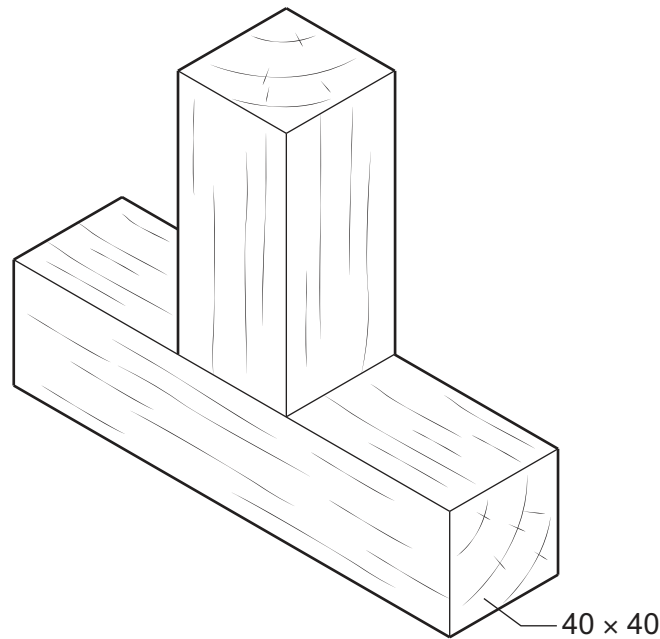

Fig. 9.1
- 9 Fig. 9.1 shows two lengths of softwood glued together.
Add sketches and notes to Fig. 9.1 to show how the joint could be strengthened.